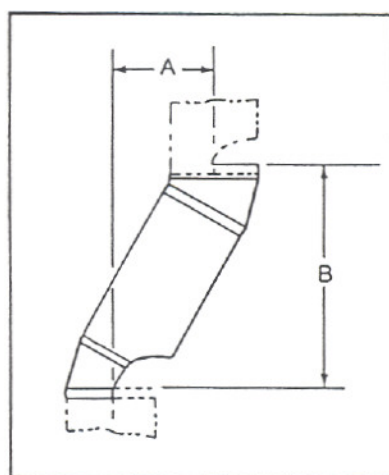

Figure 14
Figure 14 and Tables 2 or 3 enable selection of the appropriate chimney components when using Offsets and Returns.
1. Determine amount of offset required to extend the chimney through a wall or around an obstacle. See Figure 14, dimension "A".